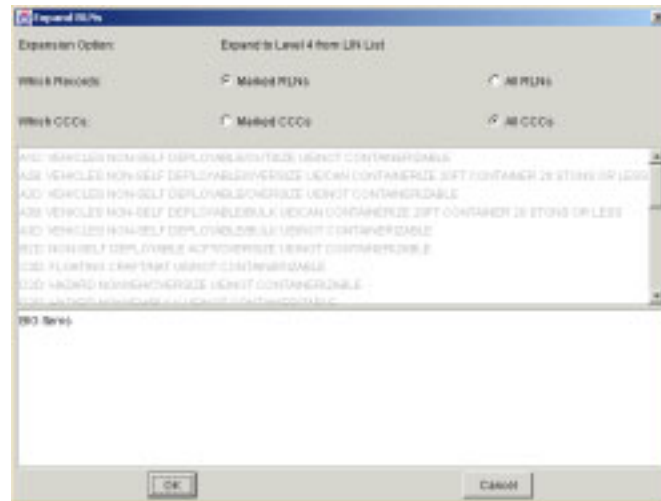

Figure 5.201 Expand RLNs Window
- On the Detail Expansion menu, click the Expand to Level 4 from LIN List command. The Expand RLNs window opens (Figure 5.201). Two radio buttons are already checked: Marked RLNs and All CCCs.